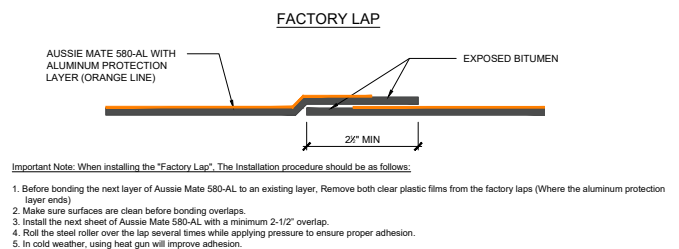

FIGURE 1.2 – STANDARD FACTORY LAP
**Factory Lap:** Minimum 2 1/2" overlap required. See Figure 1.2 on the next page.